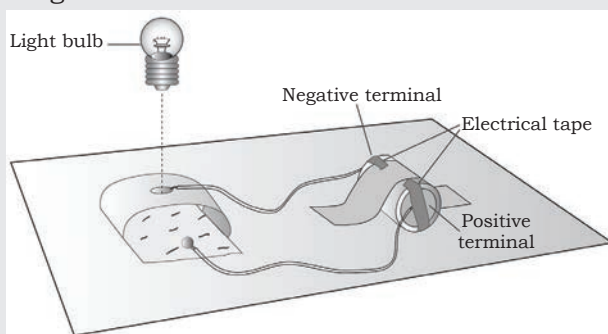

Fig. 3
6. Place the bulb into the bulb holder. Make sure the bottom of the bulb touches the aluminium foil as shown in Fig. 3.